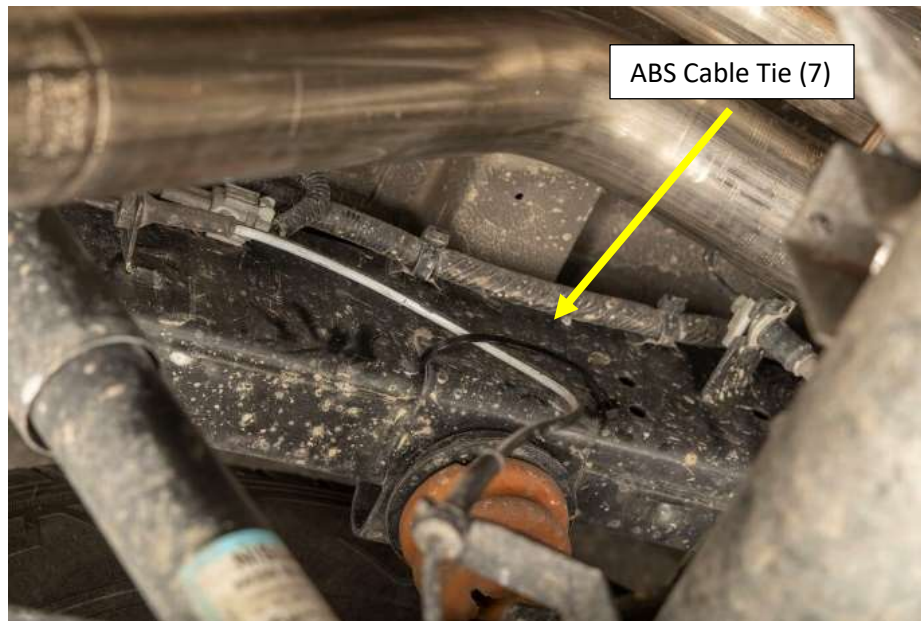
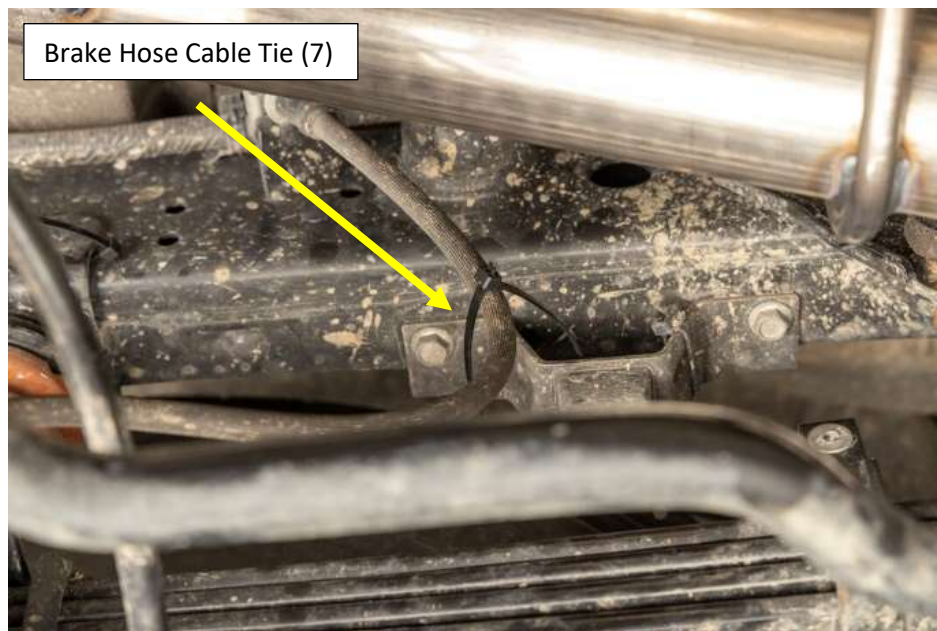

Figure 5
Figure 6
13. Secure the ABS cable and brake hose away from the tailpipe assembly using the supplied cable ties (7). Loop the cable ties through the brackets on the frame and loosely adjust the cable ties for adequate clearance, but still allow free movement with suspension travel. **Fig.5 /Fig.6**